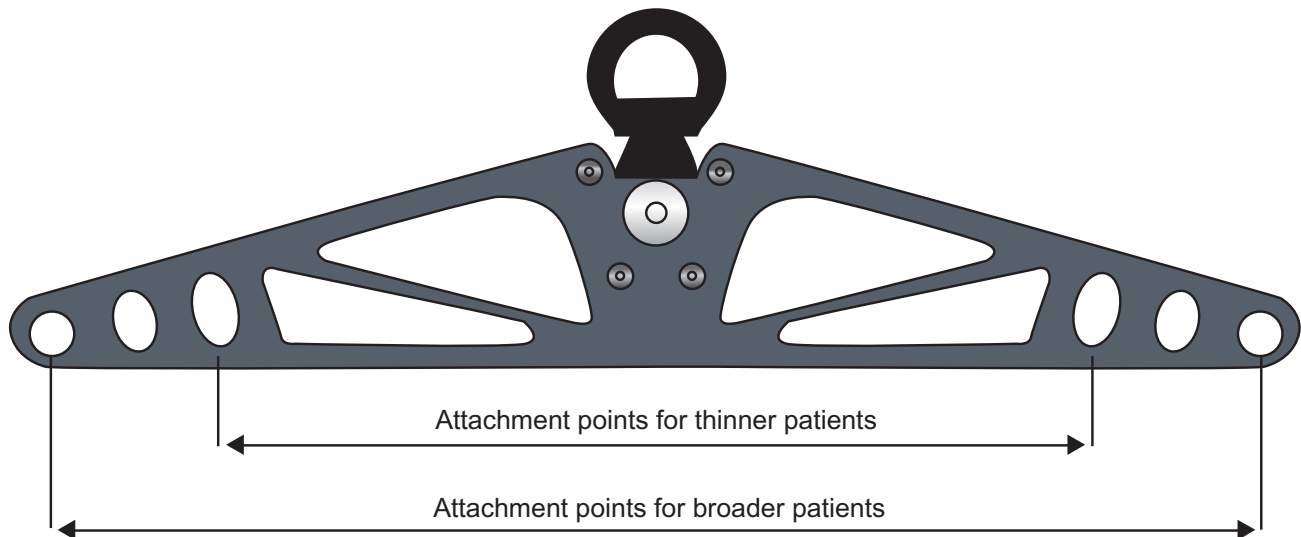

Figure 5-14: Spreader Bar Attachment Points
3. The spreader bar provides three attachment points to attach a patient harness. The selection of the attachment point depends on the size of the patient. Connect the patient harness to the outermost attachment points for broader patients, and to the innermost points for thinner patients. See Figure 5-14.